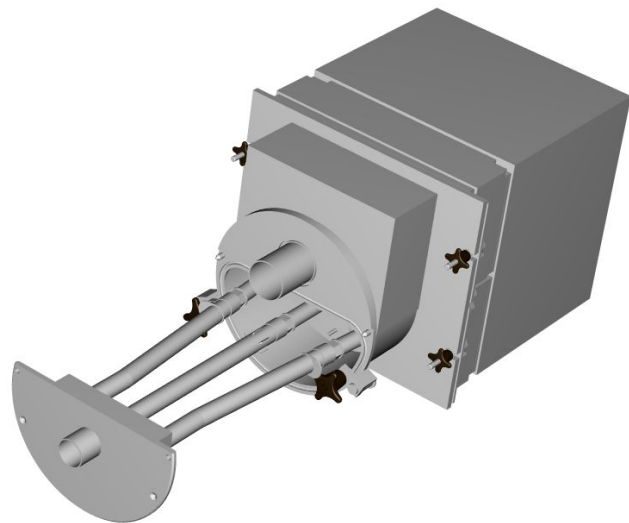

FIGURE 7
8. Insert the gas lance in the burner body (see Figure 7),